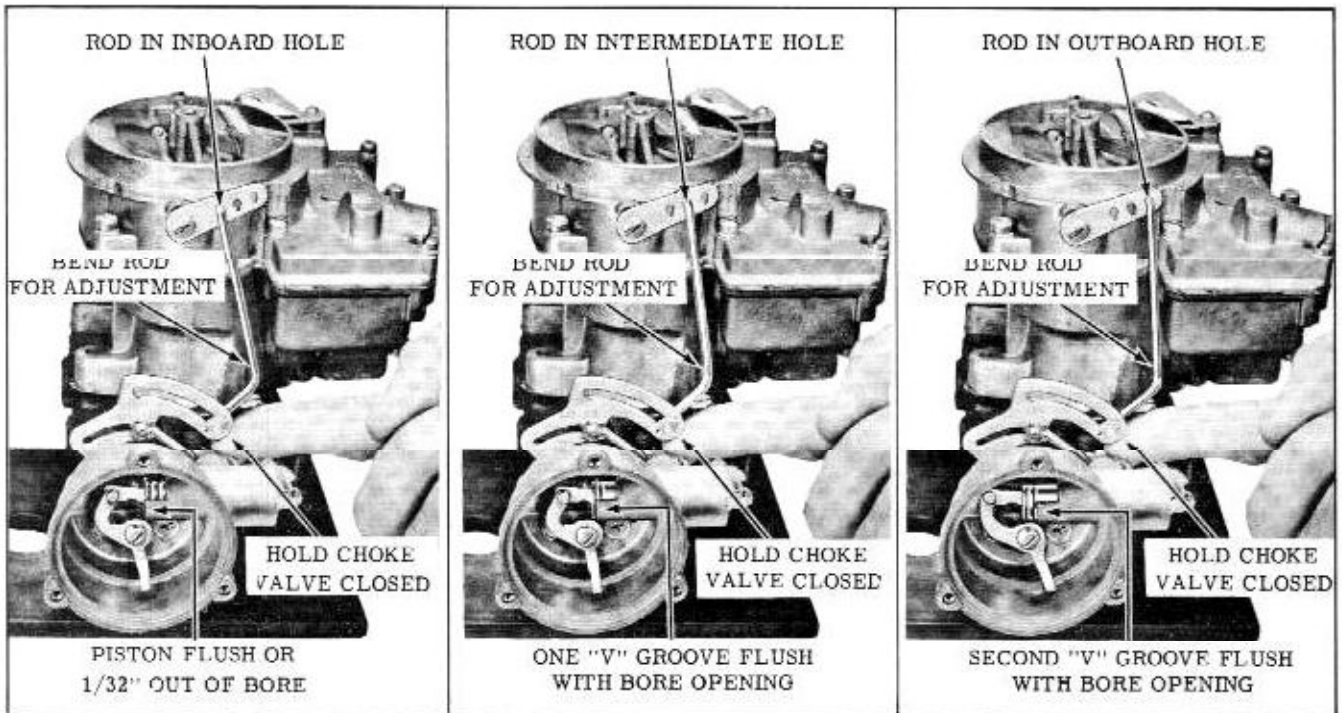

Fig. 8-147 Intermediate Choke Adjustment
1. Adjust the intermediate choke rod as outlined in Fig. 8-147.